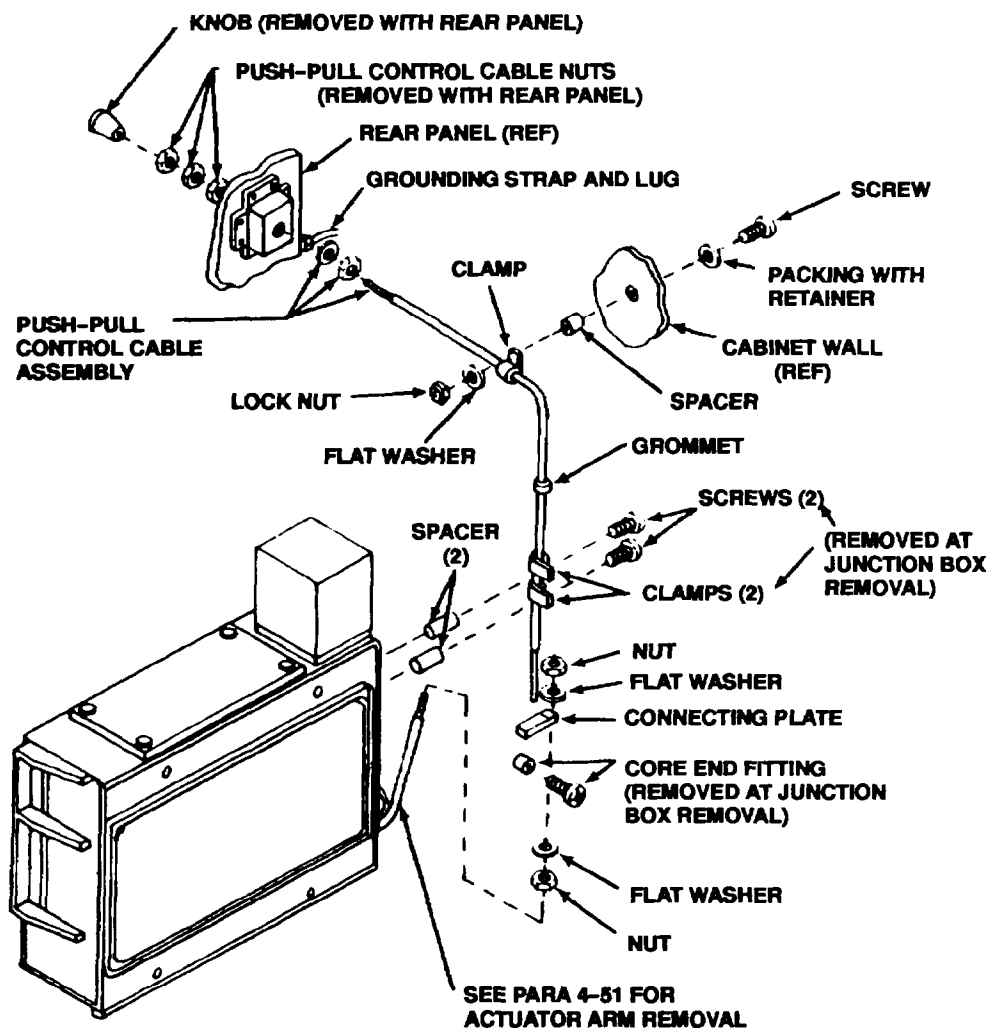

Figure 4-54. Circuit Breaker External Reset
- (1) Be sure parts are in place and that wire moves freely in cable.
- (2) Using Figure 4-54 as a guide, remove and replace any damaged or missing parts.